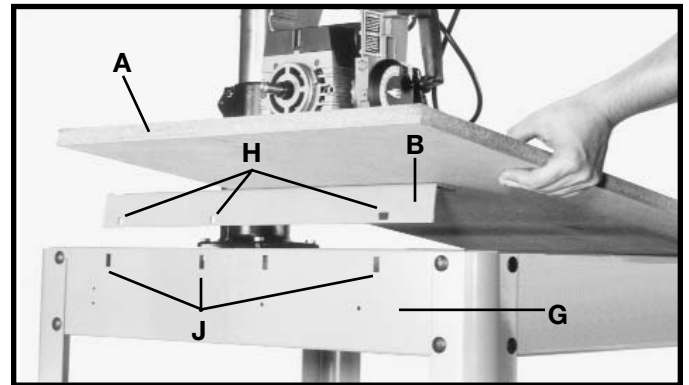

Fig. 17
3. Place front table board (A) Fig. 17, onto saw base (G), so that table supports (B) straddle the outside of saw base (G) and three holes (H) in each table support (B) line up with three slots (J) in each side of saw base (G) as shown.